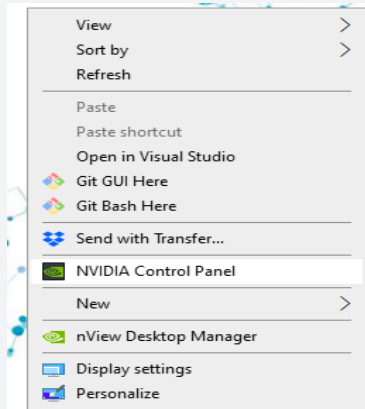

Figure 2
1. Right click on your desktop and select NVIDIA control panel (figure 2)